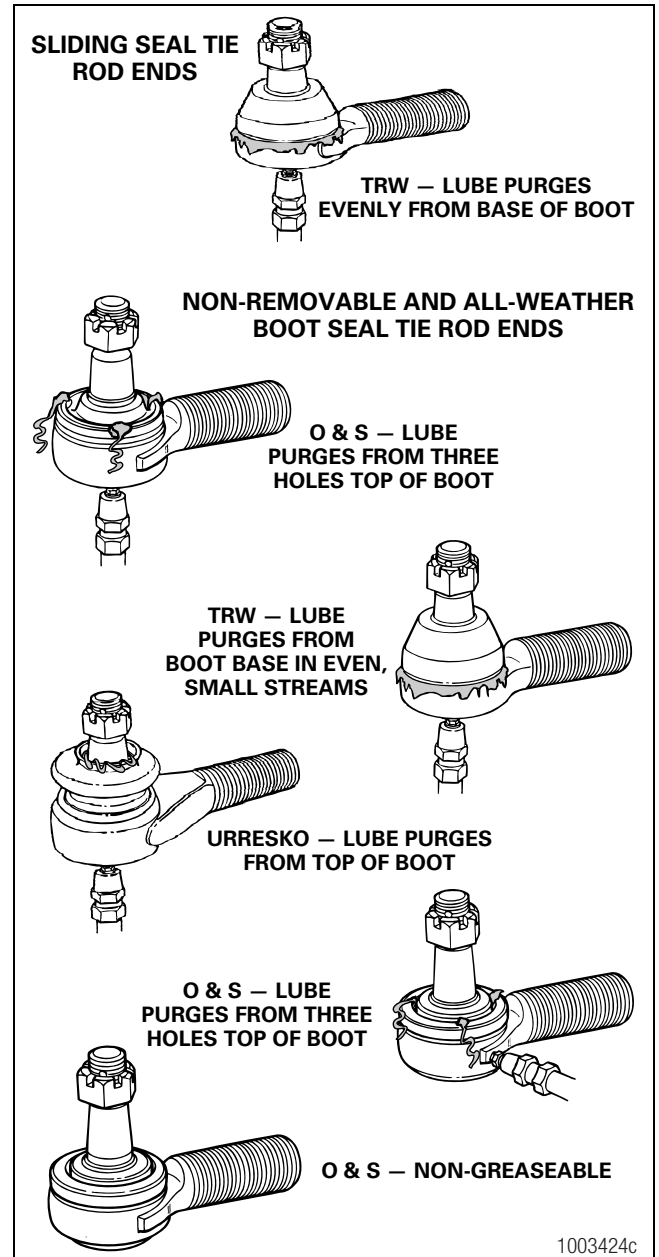

Figure 5.23
3. Attach either a hand or air pressure grease gun to the grease fitting. Old grease should purge from the holes near the boot crimp or bellows area, usually at three or more places. Figure 5.23.